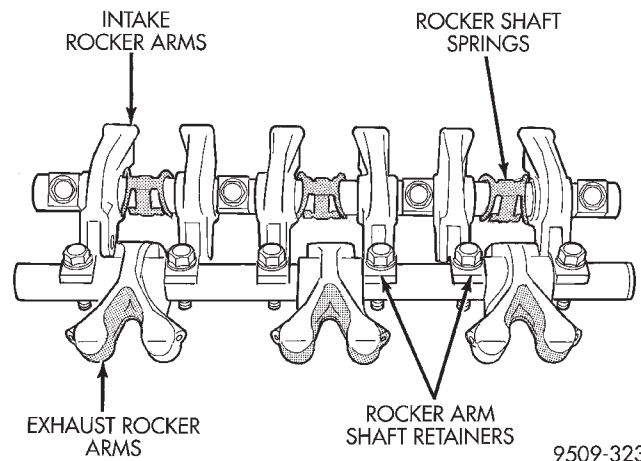

Fig. 46 Rocker Arm Shafts
- (4) Loosen the attaching fasteners. Remove rocker arm shaft assemblies from cylinder head.
- (5) Mark rocker arm/hydraulic lash adjuster assemblies for reassembly in their original position. Remove rocker arm/hydraulic lash adjuster assembly. Lash adjusters are serviced as an assembly with the rocker arm (Fig. 46).
Install the retainers and spring clips in their original positions on the exhaust and intake shafts (Fig. 46).